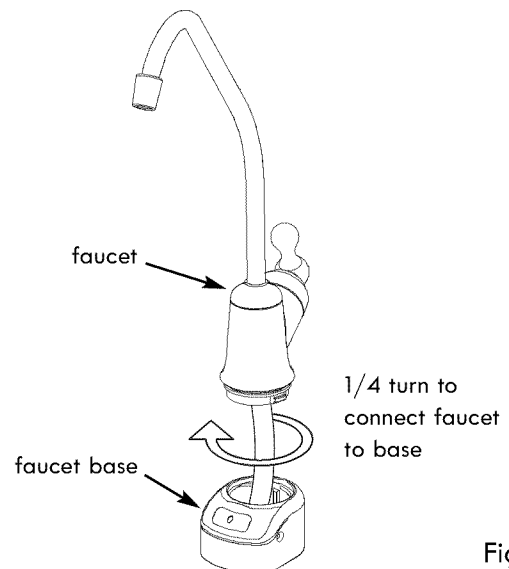

Figure 7
1. Lower the faucet onto the base. See Figure 7.